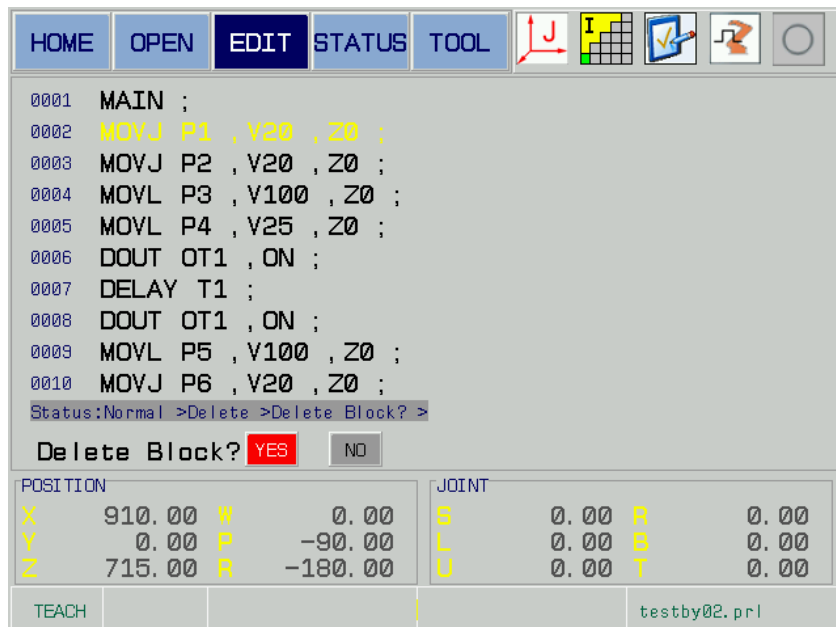

Fig. 5-36
3. Press [DELET] button before selecting the area, in this case, the page shows deleting the current line confirmation frame, and then select whether delete it by left/right direction button; refer to Fig. 5-36.